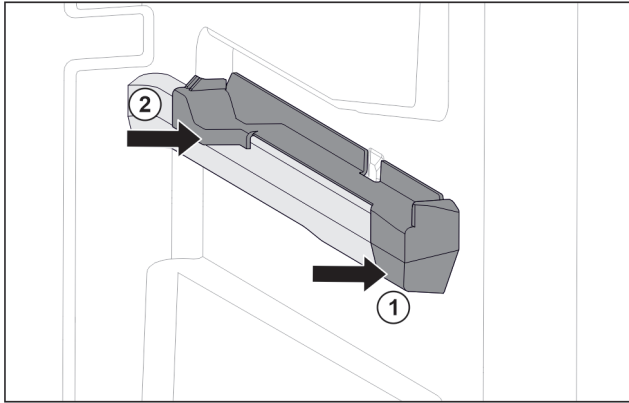

Fig. 142 Attachment on the right moulded rib
- ▶ Position attachment on moulded rib at the front. *Fig. 142 (1)*
- ▶ Press on attachment at the back. *Fig. 142 (2)*